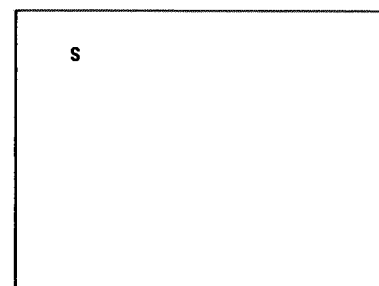
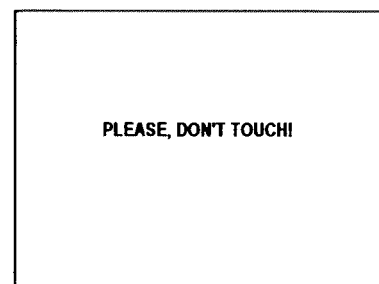

Fig.1
Fig.2
- ① Press **MENU** key and **CONTRAST** key simultaneously.
- ② The letter "S" appears at the upper left of the screen.(Fig.1)
- ③ While "S" is displayed, press **MENU** key and **PHASE** key simultaneously.
- ④ The screen display "PLEASE DON'T TOUCH".(Fig.2)